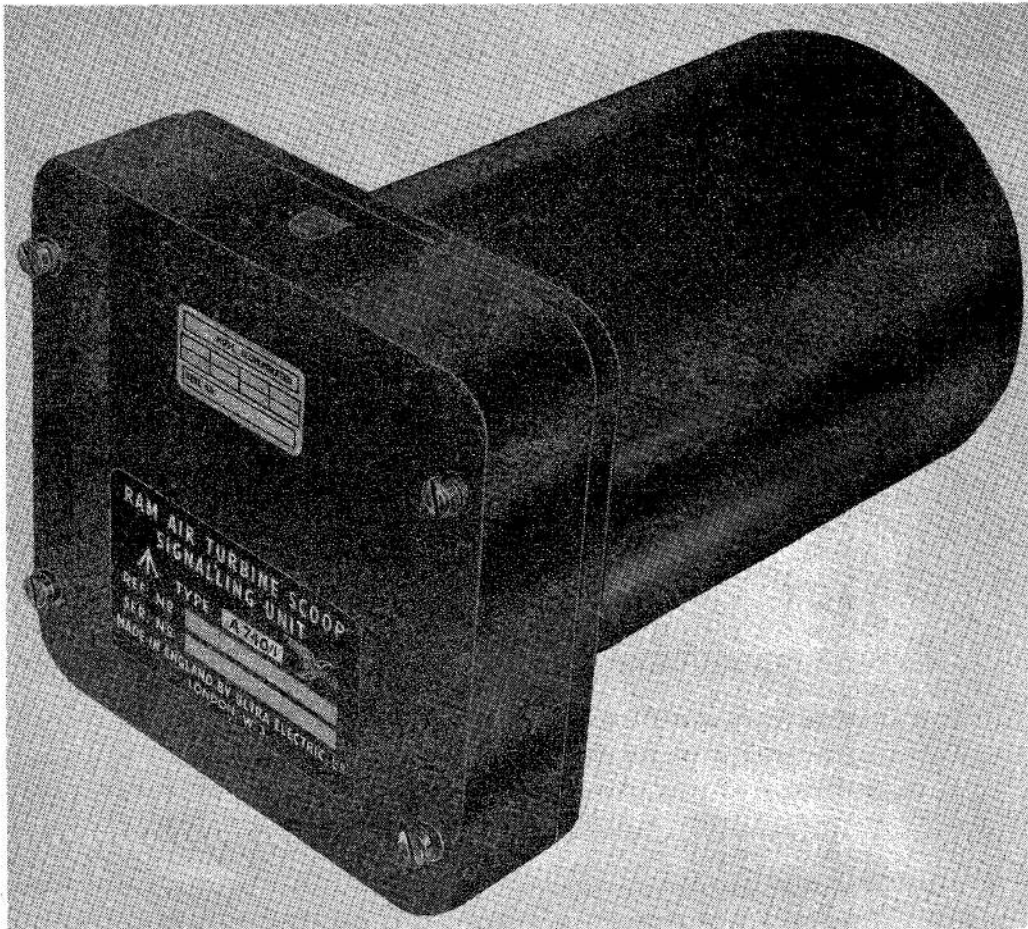

Fig. 1. Ram air turbine scoop signalling unit, Ultra, Type A740/1
1. The ram air turbine scoop signalling unit, Ultra, Type A740/1 (fig. 1), is a magnetic amplifier unit, used to control the extending mechanism of an aircraft's air scoops. When extended, the air scoops provide a supply of ram air for an electrical turbo-generator which maintains the primary electrical supply. In the event of the aircraft engine speed falling below a datum level (approximately 5000 r.p.m.) the scoops are extended, and the ram air turbine automatically provides a standby electrical supply for the flying control motors and other essential services.